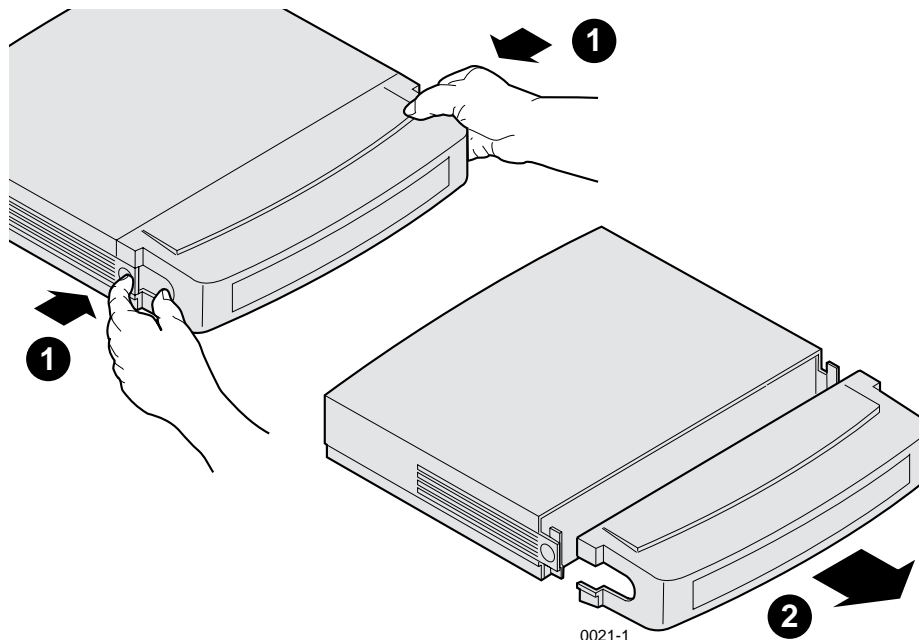

Figure 1. Removing the NC200 Cable Cover
2. **NC200:** Remove the cable cover from the rear of the Logic Module as shown in Figure 1.